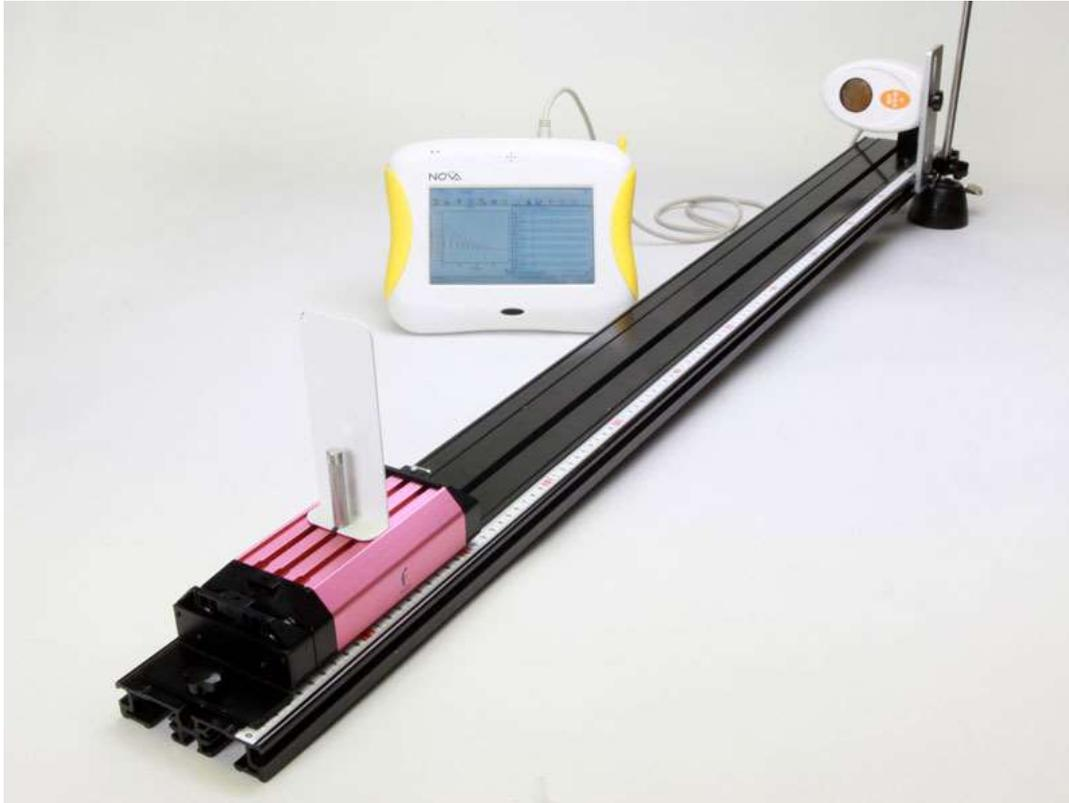

Figure 1
3. Assemble the equipment as shown in Figure 1.
2. If there is significant friction between the cart and the plane, the cart will move up and down the plane with different accelerations. Measure α the angle of inclination of the plane (see Figure 1) and the acceleration when the cart is moving downwards in order to calculate the friction coefficient between the cart and the plane: